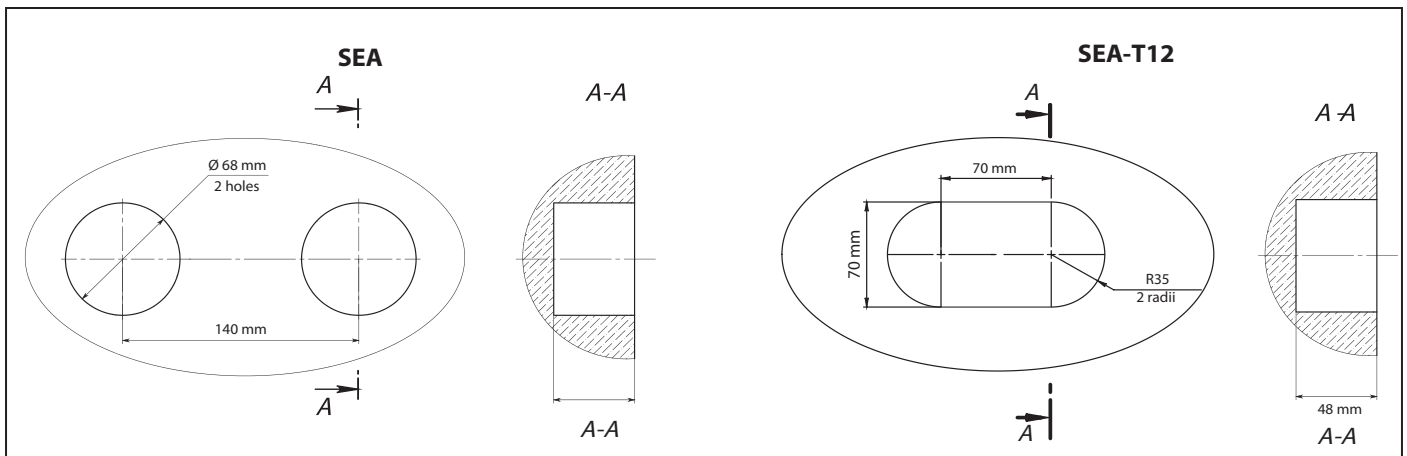

Fig. 15.
12. Install the control panel SEA-T12 with a power unit inside a prepared hole in the wall, see fig. 15. The control panel mounting place must be inaccessible for children. During selection of the control panel mounting place consider the